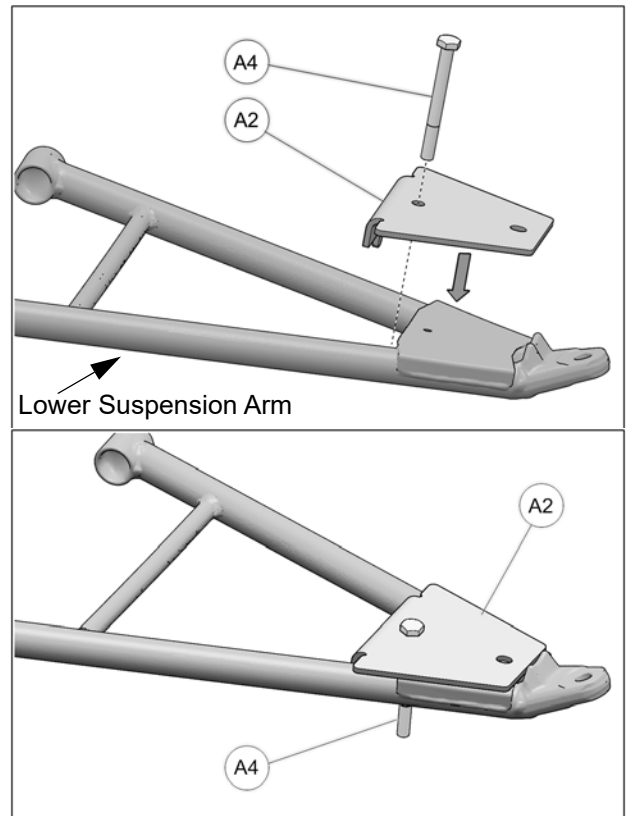

Fig. 14
5. Insert M10x100mm bolt (A4) in back end hole of anchor bracket cover (A2) and position these parts over lower front suspension arm as shown in Fig. 14